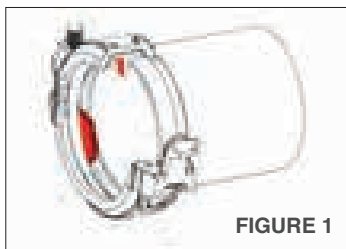
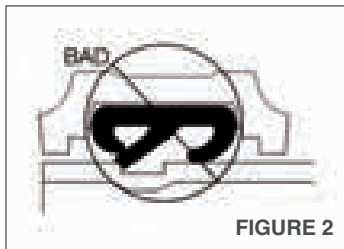

FIGURE 1
FIGURE 2
Step 3. Push the gasket/coupling onto one end of the pipe until the positioning-plate of the gasket is in contact with the end of the pipe (**SEE FIGURE 1**) the red highlight is the positioning-plate. The pipe end should not cross through the positioning-plate of the gasket. (**SEE FIGURE 2**).